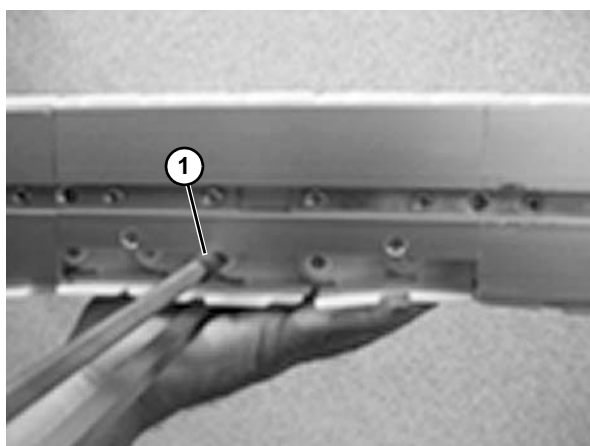

Figure 59
4. Remove excess links and use the chain tool (**Figure 59, item 1**) to put the chain back together again.